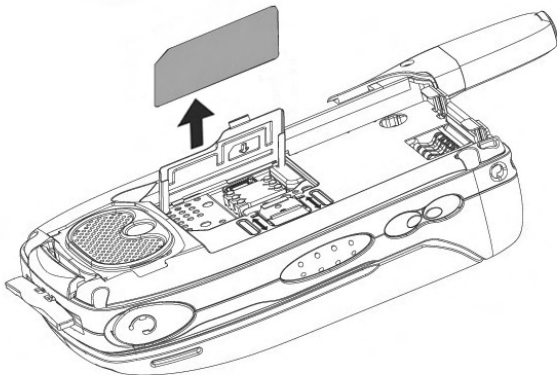

Figure 1-3. Removing a SIM Card
**To remove a SIM card (Figure 1-3):**
4. Open the SIM card holder (see Figure 1-3).